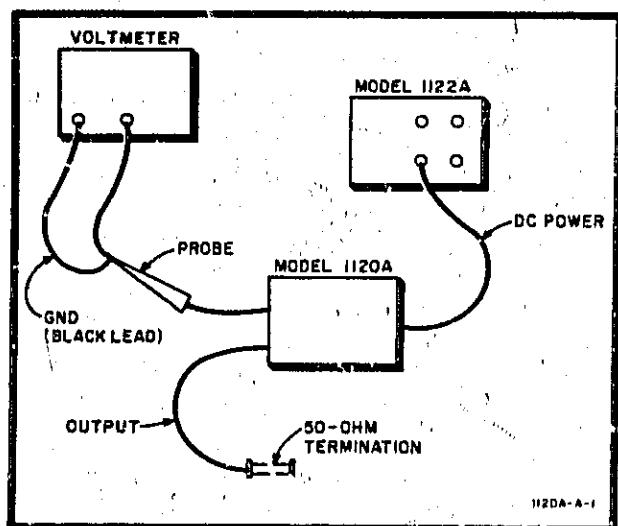

Figure 7. Input Balance Test Setup
b. Connect the Model 1120A as shown in figure 7 for the Input Balance check.